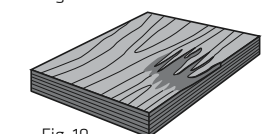

Fig. 10
**Face Breaks** - Irregular cracks across the face of the concrete forming beam. Usually a result of overloading, face cracks dramatically reduce the strength of the beam. Remove beams with face breaks from service. (Fig. 10)